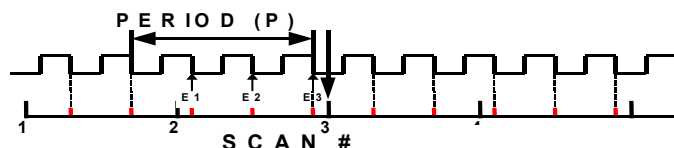

FIGURE 3.4.2-1. Frequency calculation for the CR9071E
For example, refer to Figure 3.4.2-1. Let us assume that the Scan period is 1 mSec. At the beginning of Scan 3, The time (P)eriod between the falling edge of the last pulse in Scan 1 and the last pulse in Scan 2 would be calculated (lets say P = 1200 uSec). The (N)umber of edges, which equals 3, would be divided by P. So we would get 3/(0.0012) to get a frequency result of 2.50 kHz.